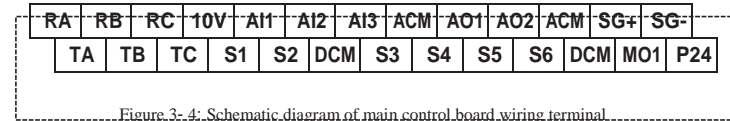

Figure 3- 4: Schematic diagram of main control board wiring terminal.
1) Schematic diagram of control circuit wiring terminal (Figure 3- 4)